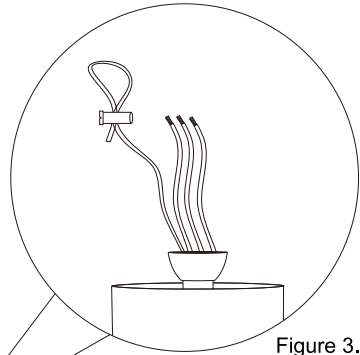

Figure 3.2
- Thread the electric wire from the motor through the down rod, (Figure 3.2)